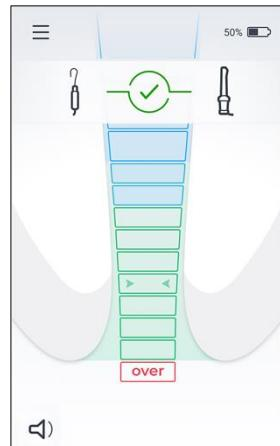

Fig. 4
3. “Cable connection test” icon  should appear on the screen - see Fig. 4.